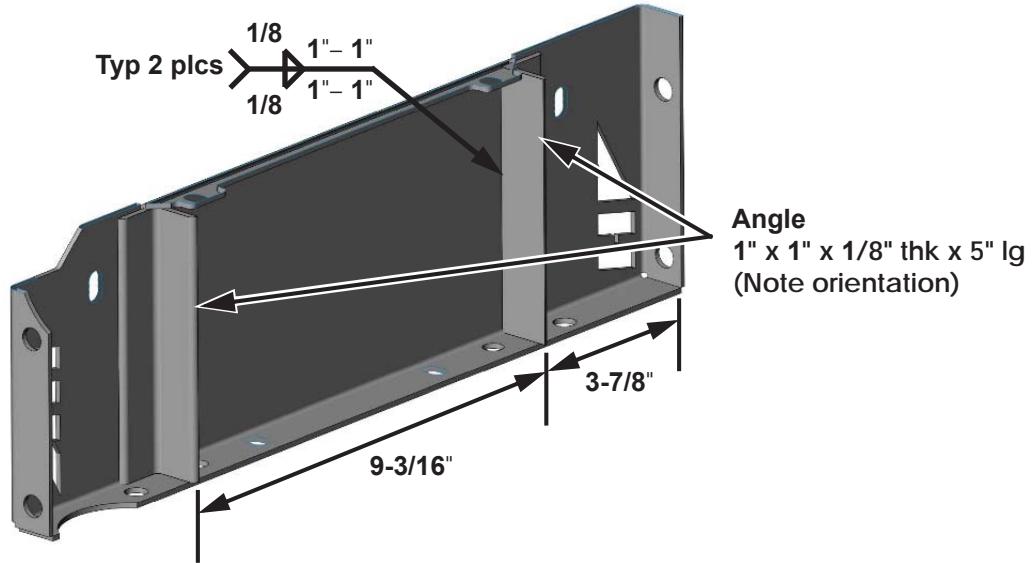

Figure 4: Weld Two Stiffener Angles
3. Position and weld two stiffener angles to each side plate as shown in Figure 4 below.